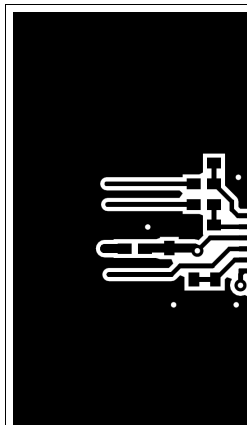

Figure 42. Top Layer Traces and Copper
- Increasing the PCB copper connecting to VDDA, VDDB, VSSA and VSSB pins is recommended, with priority on maximizing the connection to VSSA and VSSB (see Figure 42 and Figure 43). However, high voltage PCB considerations mentioned above must be maintained.